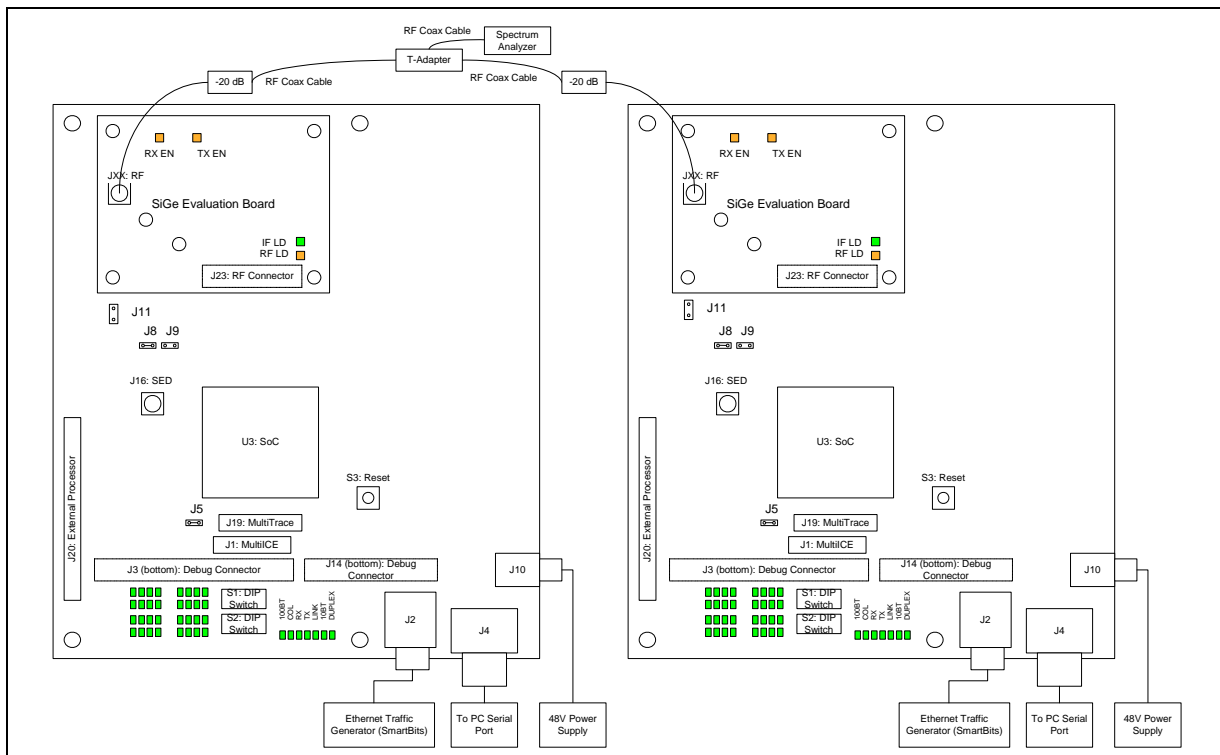

Figure 5: RF Traffic Test Configuration
1. Configure two (2) SoC Reference Boards as shown in Figure 5.
5. From the SoC Main Menu (Section 3.1.1) select (5) Traffic Application, (a) Run Traffic to start traffic generation (see also Section 3.1.6).